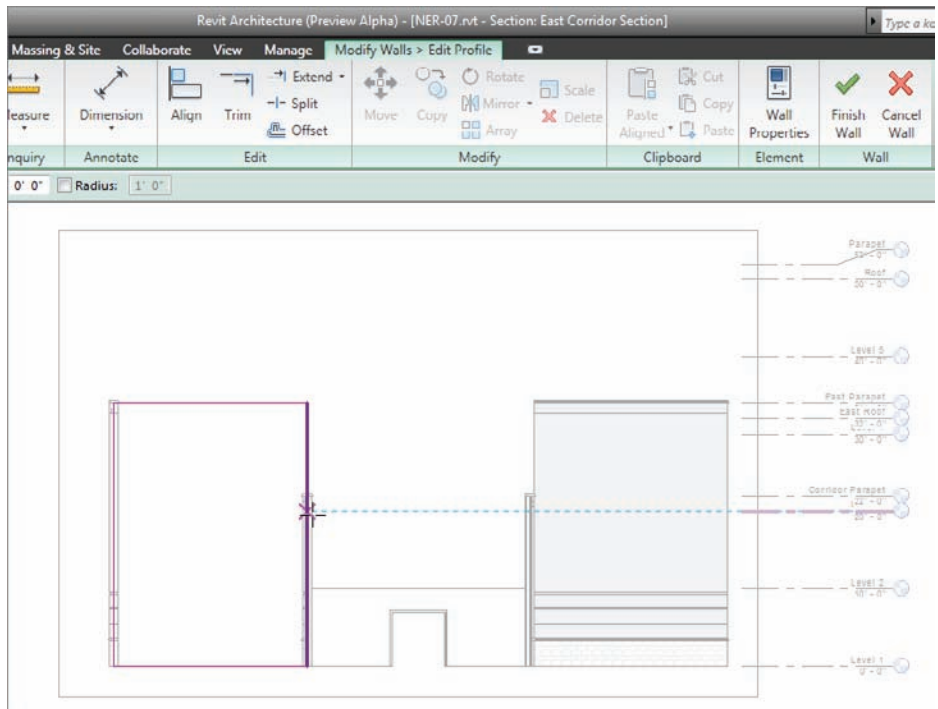

FIGURE 3.44 Revit will align your cursor to levels, enabling you to accurately sketch a new profile.
6. Move your pointer up or down until you are aligned with Level 3, as shown in Figure 3.44.